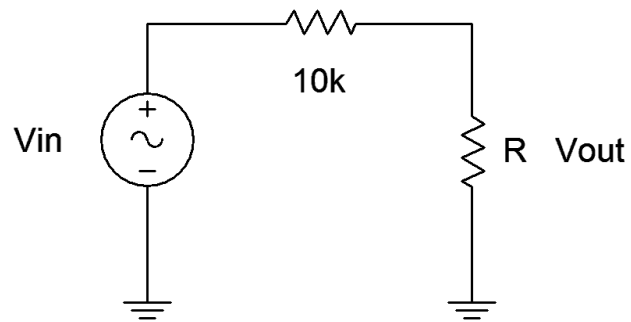

Figure 1
1. Calculate the voltage gains (losses) for the voltage divider of Figure 1 for the resistor values specified, and record them in Table 1. Also, convert each of the ordinary gains into decibel form.
2. Assemble the circuit of Figure 1 using the 22k resistor.